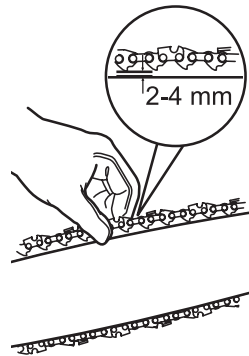

Fig. 10
4. Check the chain tension using one hand to lift the saw chain (3) against the weight of the product. The correct chain tension is achieved when the saw chain can be lifted by approx. 2 - 4 mm from the guide bar (4) in the centre (Fig. 10).